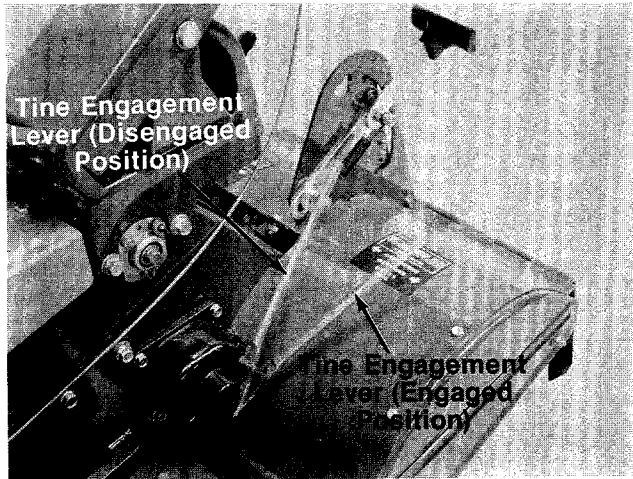

FIGURE 22.
1. Place the gear shift lever in "NEUTRAL" (N) position.
2. Place the tine engagement lever in the **disengaged** position. See figure 22.
To engage tines, move the lever outward. To disengage tines, move the lever inward. See figure 22.
2. Place the tine engagement lever in the disengaged position. See figure 22.